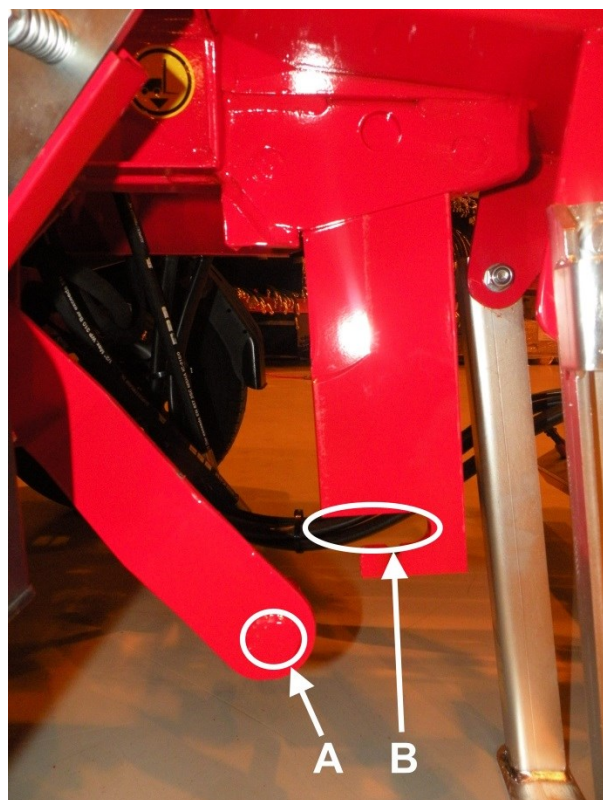

Figure 24.
4. Clear the space below the splitting knife of wood and lower the knife to the lowest possible position, which releases the height adjustment shaft A from the splitting knife groove B (Figure 24).